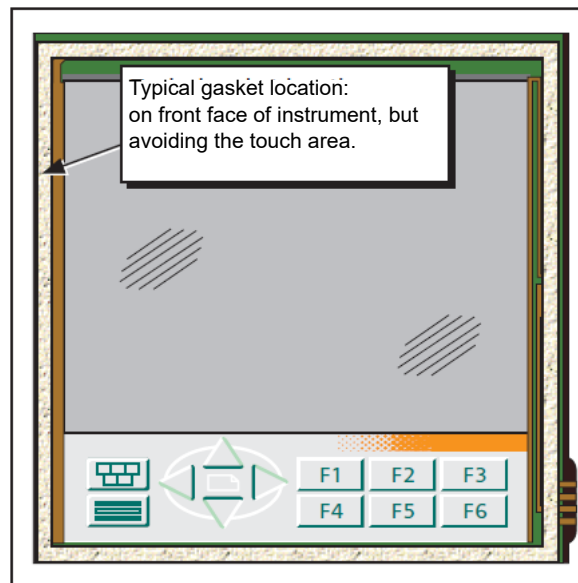

Figure 158 Typical Gasket Location for 'Open' Windows
2. For 'open' windows, it is recommended that a foam gasket or similar is positioned between the overlay and the front face of the instrument such that this gasket is compressed when the overlay is secured. The gasket must avoid the touch-screen area, as shown in Figure 158, below.
- b. A low tack adhesive (e.g. double-sided adhesive tape) should be used to provide a seal between the membrane and the non-touch-sensitive areas of the display (in a similar way to that shown for open window gasket sealing, in Figure 158, below). The presence of dust, or other foreign matter, is not only unsightly, but it can also lead to unreliable operation of the touch screen. Ensure that both the touch screen and the membrane are clean before sealing.